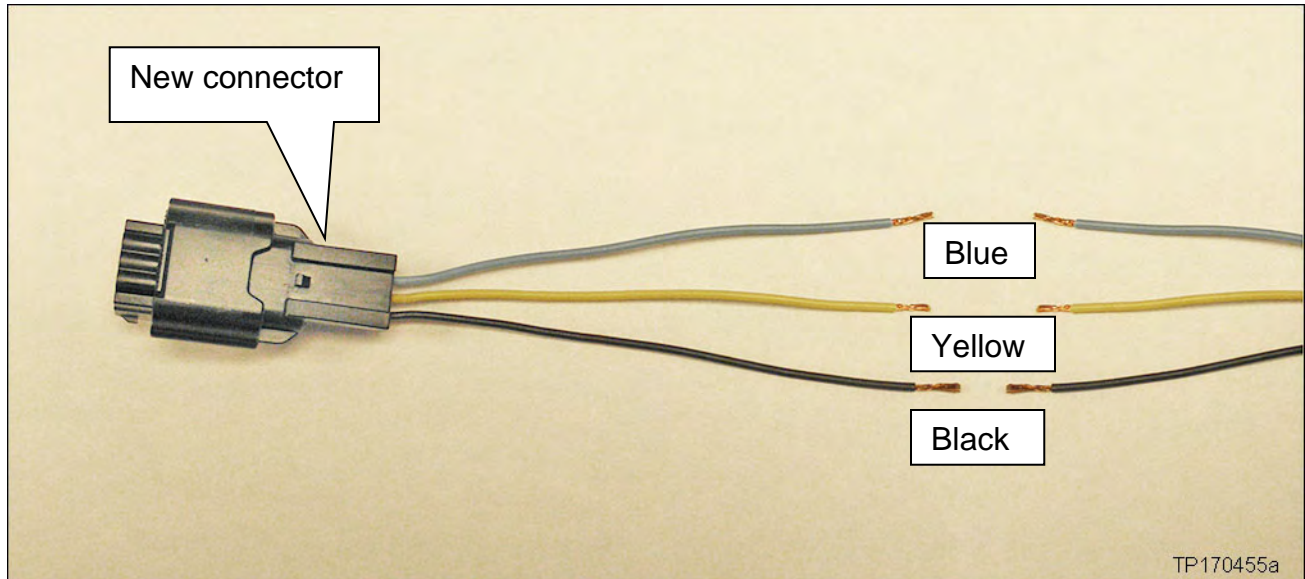

Figure 5
7. Match the wires colors from the **new** connector with the wire colors from the vehicle harness as shown in Figure 5.